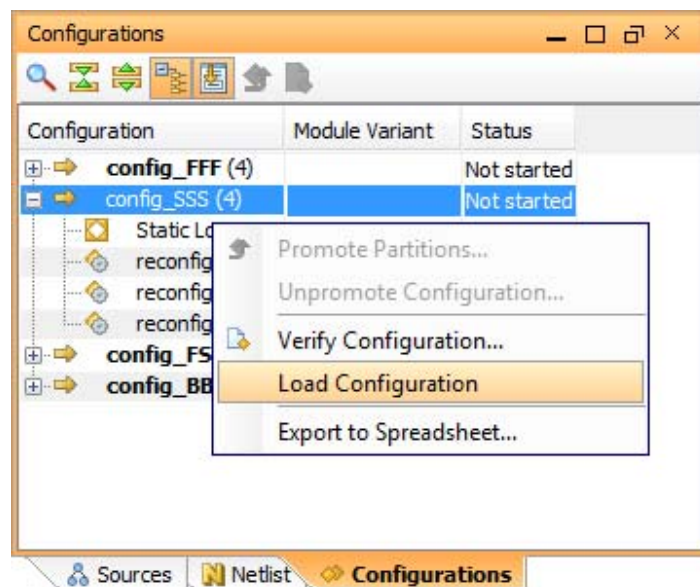

Figure 4-29: Loading an Existing Configuration
1. Use the **Load Configuration** command in the popup menu in the Configurations pane to load the netlist for analysis as shown in Figure 4-29.